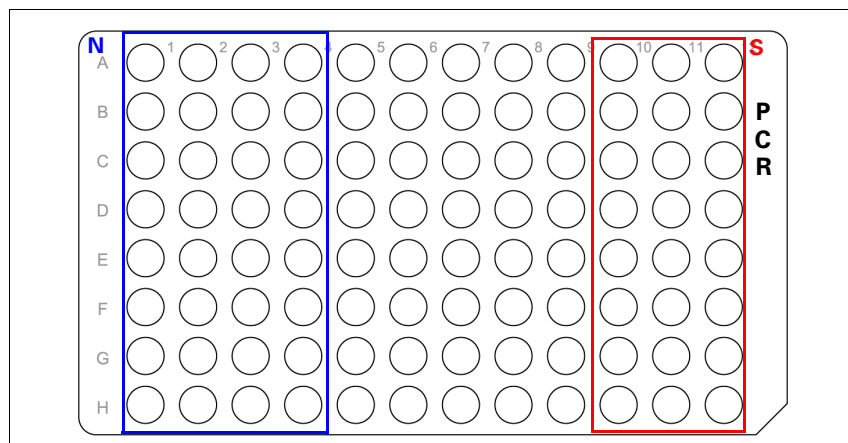

Figure 4.12 Labeling the 96-well plate for PCR.
3. Label a fresh 96-well plate as shown in Figure 4.12 (blue for Nsp; red for Sty).